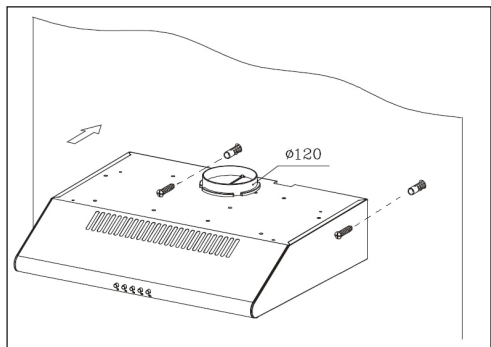
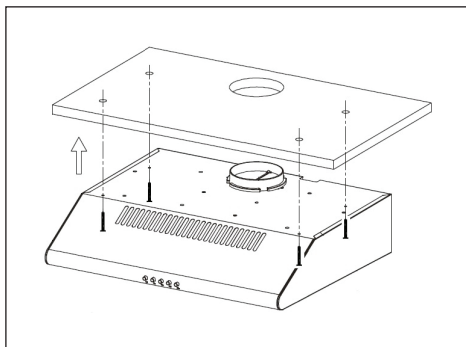

Fig. 4
Fig. 5
4. Drill the holes and fasten the hood according to Fig. 4 into the upper box, or according to Fig. 5 to the wall.